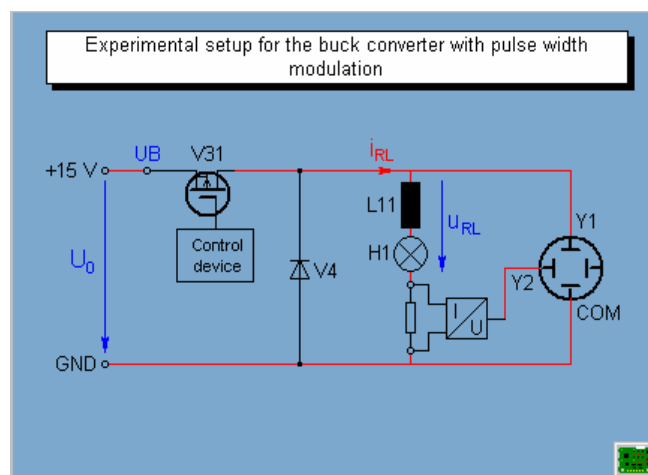

Figure 9-3 Buck converter with pulse width modulation
The buck converter enables a direct voltage to be lowered. This is achieved by switching the input voltage U_o on and off at a high frequency with the aid of a DC power switch (GS), which in practice can be, e.g., a MOSFET. As a result there is a direct voltage U_{RL} at the load whose mean value U_{AV} depends on the ratio of the operating intervals and the break times. Fig. 9-3 shows the buck converter with PWM "pulse width modulation".